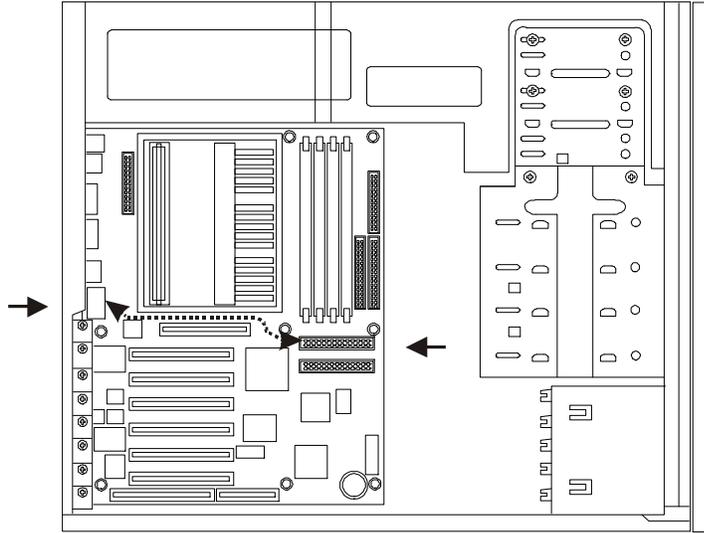

Figure 4-6. Threading External SCSI Cable
3. Thread the cable from the SCSI channel B connector, between the processor cage and the factory installed AGP Video board, to the cutout at the rear of the chassis (see Figure 4-6).